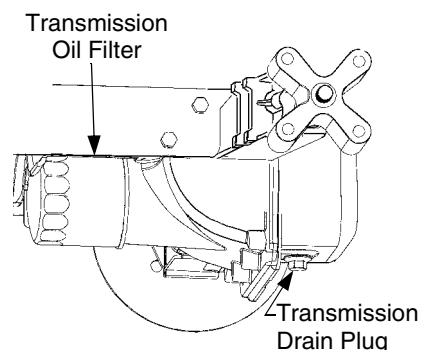

Figure 19
- Clean the area around the transmission drain plug to prevent debris from entering the transmission case. Remove the drain plug and allow the transmission oil to drain into a clean container having a capacity of more than 5 quarts. Reinstall the drain plug. See Figure 19.